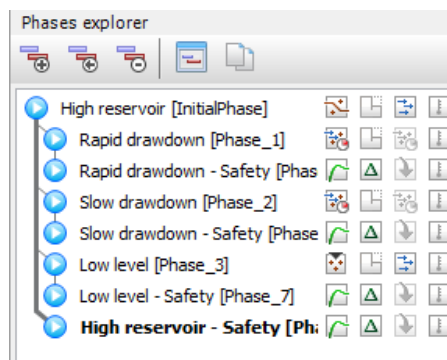

Figure 184: The final view of Phases explorer
6. The final view of the phases explorer window is shown in Figure 184 (on page 209).